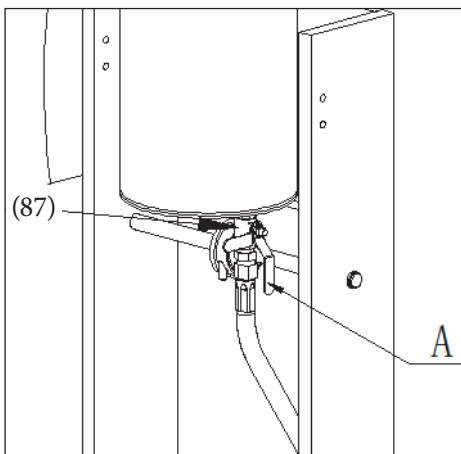

Fig. 14
- Open the valve (87) by turning it anticlockwise to position A (refer to Fig. 14).